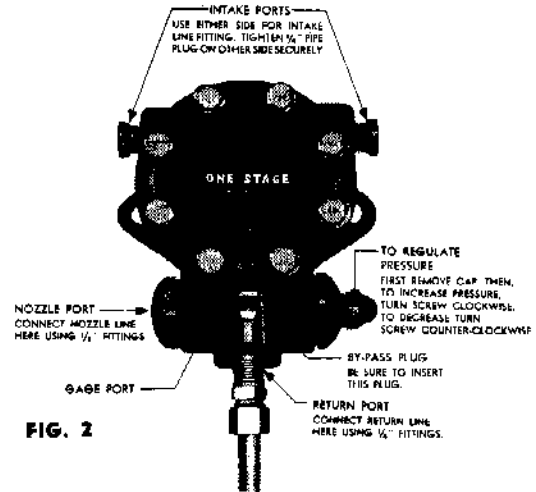

FIG. 2
3. Remove internal by-pass plug from cloth bag and insert as shown in figure 2.